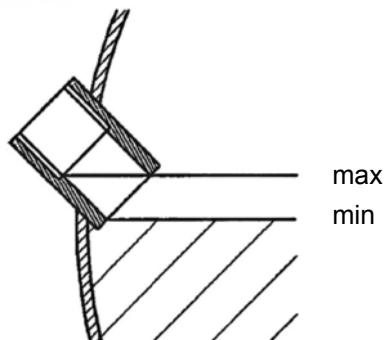

Fig. 6.5: Checking the oil level, topping up with oil
- Remove plug (2) of oil filling socket (1) (see Figure 6.5).